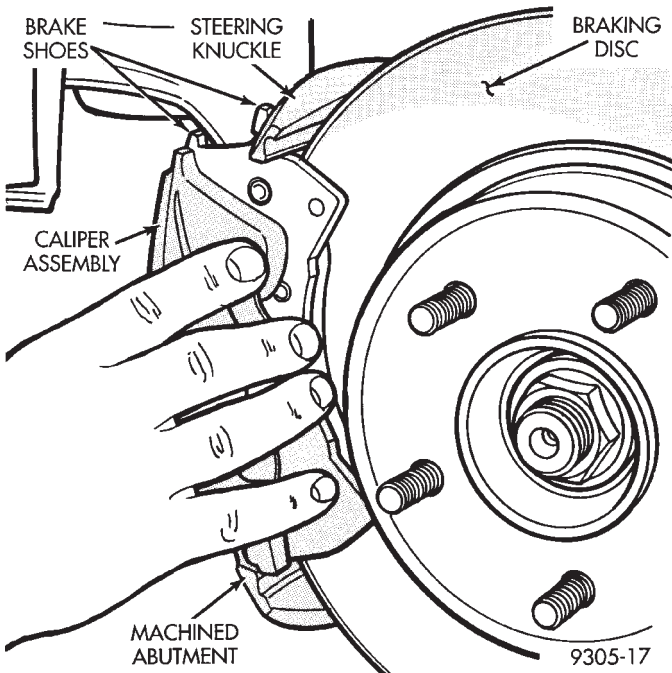

Fig. 19 Disc Brake Caliper Mounting
(11) Install front brake caliper over braking disc and align with caliper mounting holes on steering knuckle (Fig. 19). Refer to Front Disc Brake Service in the Brake Section of this service manual for caliper installation procedure. Install the caliper to steering knuckle bolts. Tighten bolts to 19 N·m (168 in. lbs.).